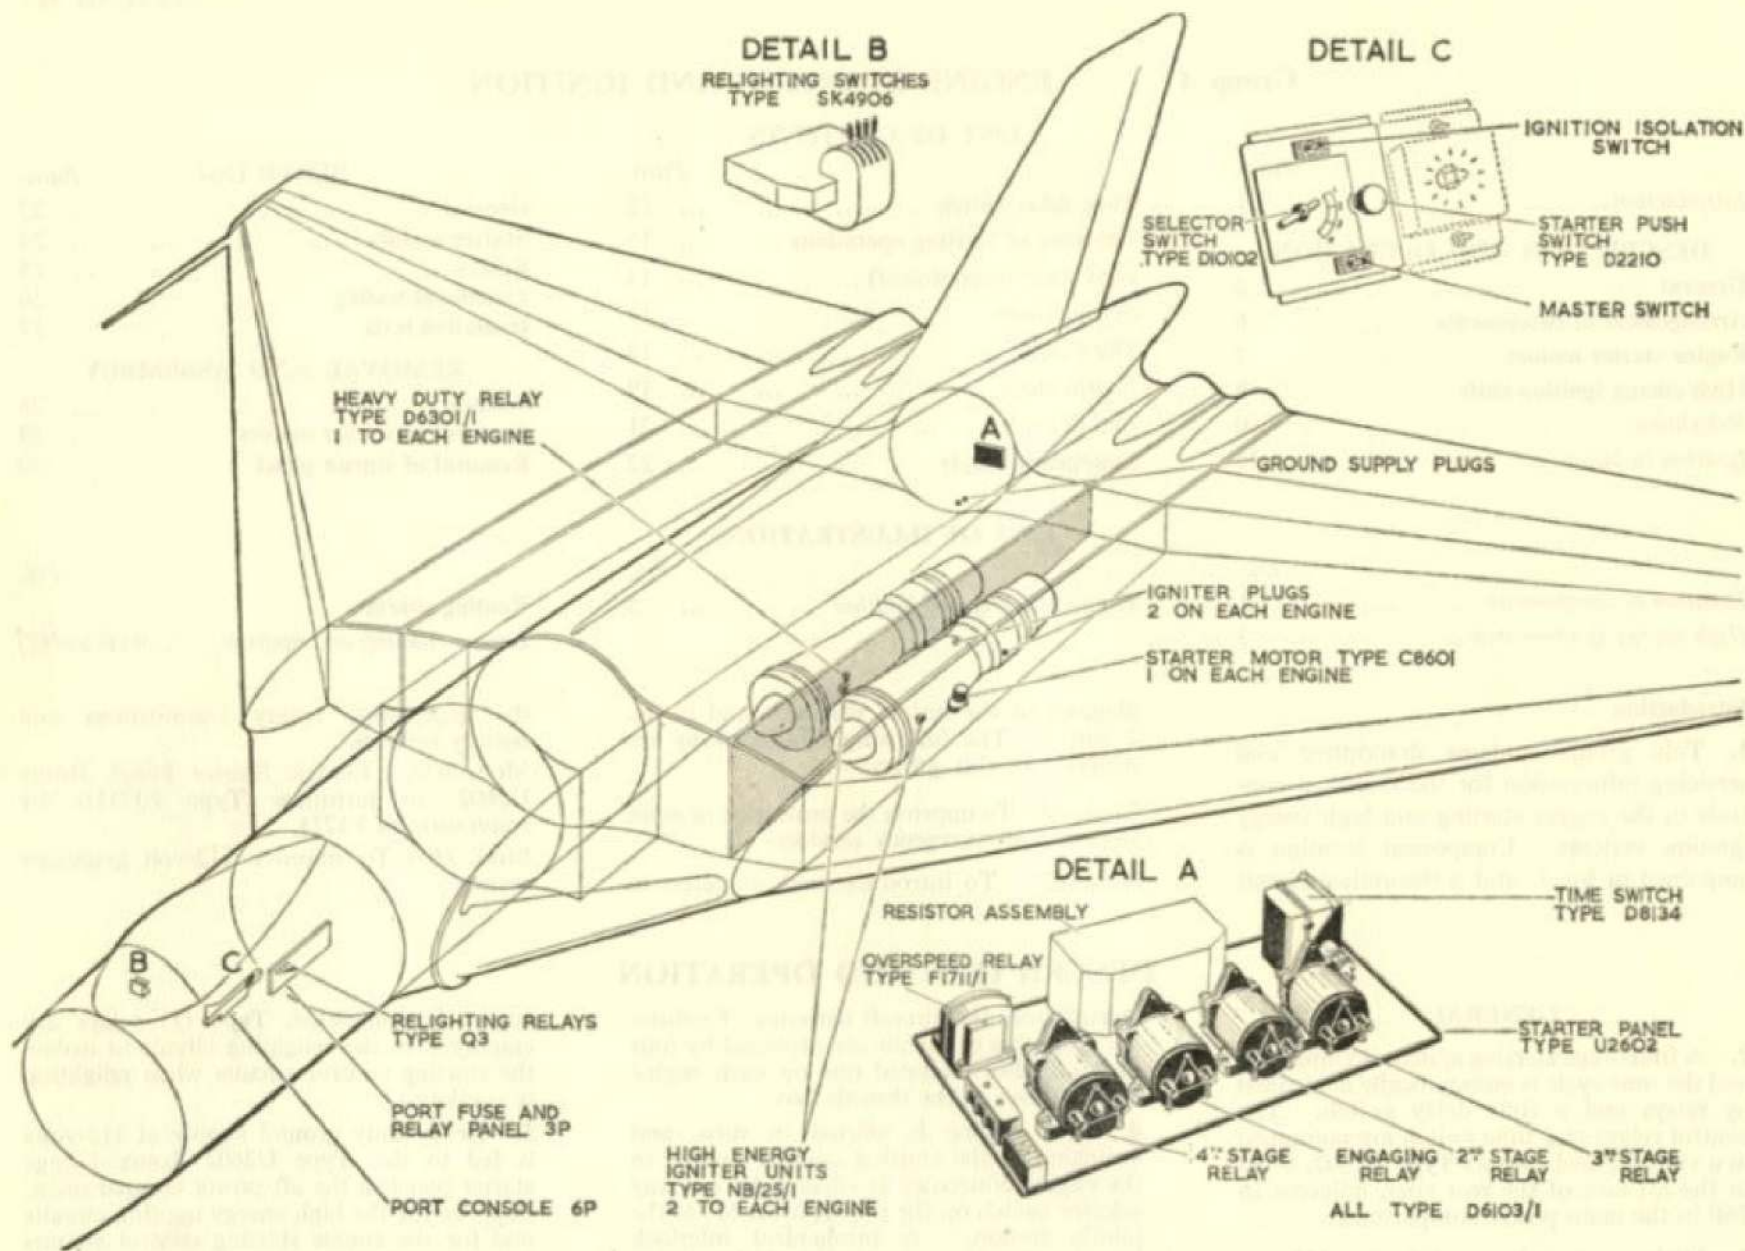

Fig. 1. Location of components (J and K)
1. This group contains descriptive and servicing information for the electrical controls in the engine starting and high energy ignition systems. Component location is contained in fig. 1, and a theoretical circuit